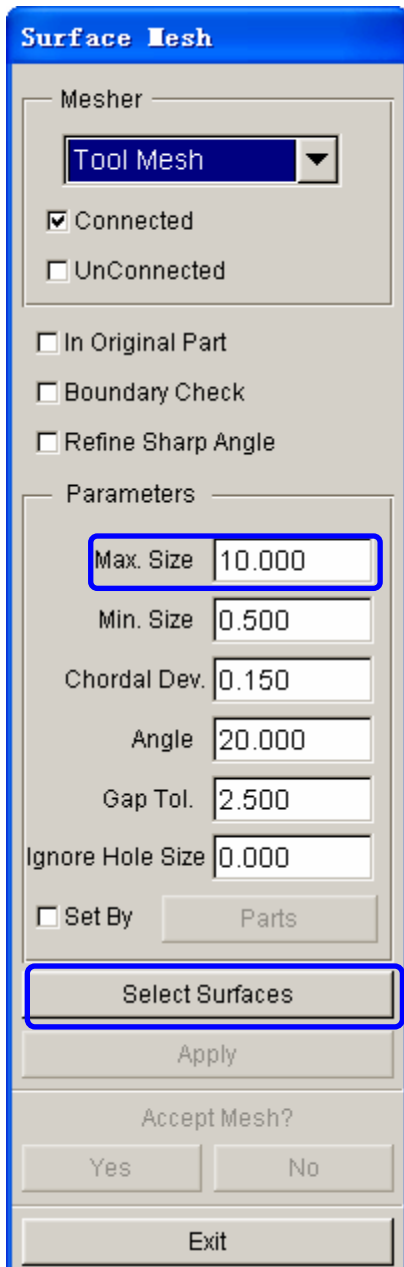

Figure 5.13 Surface mesh
6. Click **Select Surfaces** in SURFACE MESH dialog box. See Figure 5.13.